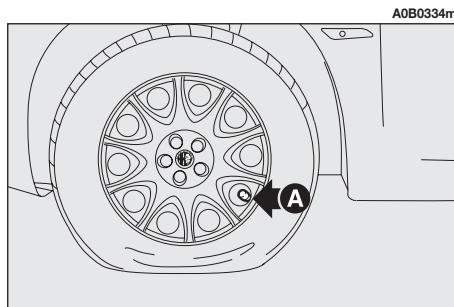

fig. 13
1) Place the wheel in the position illustrated in the figure (**A-fig. 13**) for the operation with the valve, **then engage the handbrake.**